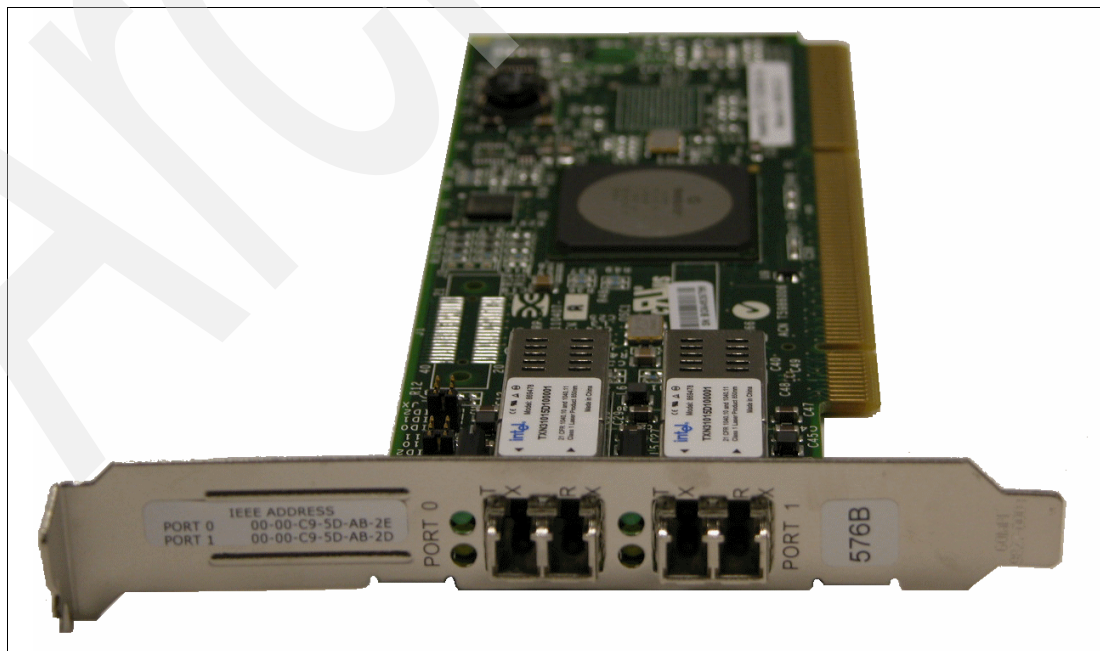

Figure 3-4 New 5749 IOP-less PCI-X Fibre Channel Disk Controller
- ▶ FC 5749 / CCIN 576B 4 Gigabit Dual-Port IOP-less Fibre Channel Controller PCI-X (see Figure 3-4)